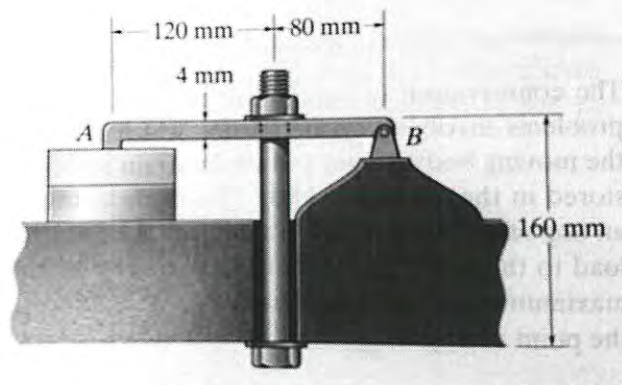

Figure Q4
- Q4** The L2 steel bolt as shown in **Figure Q4** has a diameter of  $5$  mm, and the link  $AB$  which is made from stainless steel 304 has a rectangular cross section that is  $1X$  mm wide ( $X$  is a last digit of your matrix number) by  $4$  mm thick. The bolt is tightened so that it has a tension of  $1750$  N. Neglect the hole in the link. The modulus of elasticity are,  $E_{L2} = 200$  GPa and  $E_{304} = 193$  GPa for both material.